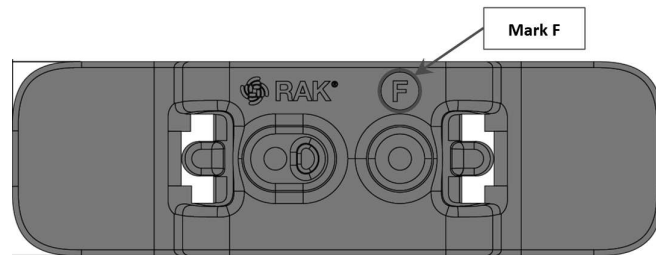

Figure 26: Mount accessory marked with the letter F
1. For DIN mount, use two (2) pieces of mount accessories with an indicator marked with the letter **F**, as shown in **Figure 26**.